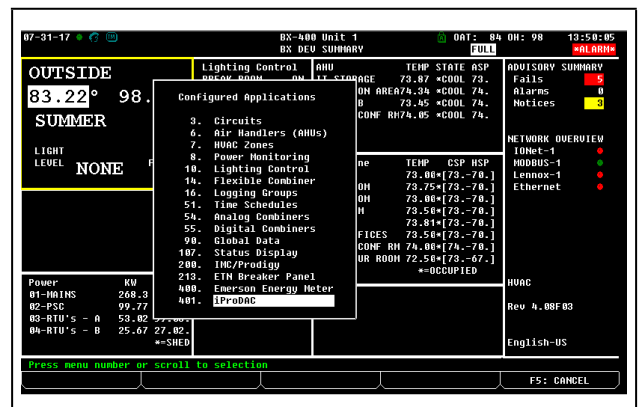

Figure 7-6 - E2 Configured Applications - Select iProDAC
1. From the E2 Main Menu  select  - **Configured Applications** (Figure 7-6).